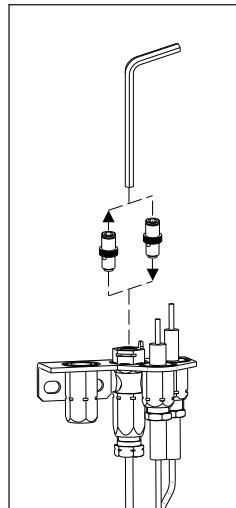

fig. 3
- 7** First replace the pilot hood by aligning the tab on the base of the hood with the slot in the side of the pilot journal, and push the hood down, onto the pilot bracket (fig. 3). The hood must sit squarely on the bracket for proper operation.
Then replace the spring by pushing it on his seat (fig.3).